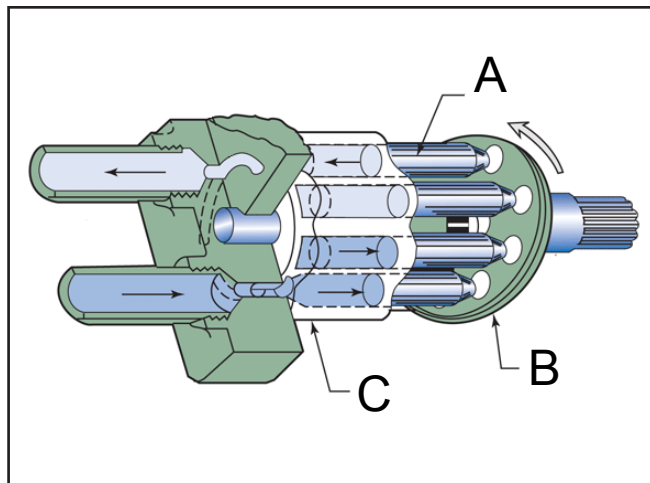

Figure 10
A piston (A) (Figure 10) is a sliding piece moved by or against fluid pressure. A piston group is a grouping of pistons mounted to the input shaft and driven by the engine. Pistons are fit within a cylindrical chamber or vessel along which it moves back and forth .
The swash plate (B) (Figure 10) pivots on two support pins and controls the pump output. As the operator moves the traction control pedal to increase travel speed, the swash plate angle increases.
Housing (C) (Figure 10) refers to a piston block with numerous precision-machined bores that house the pump pistons.